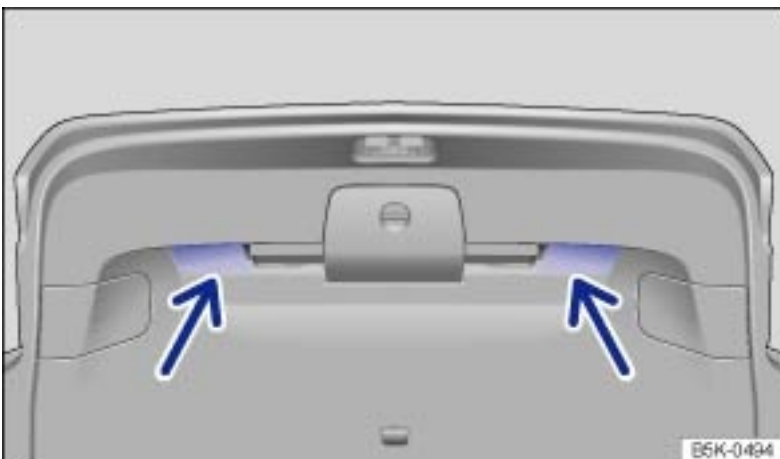

Fig. 34 Opened rear hatch: Recessed grips for closing.
- Grasp one of the recessed grips in the rear hatch trim → Fig. 34 (arrows).